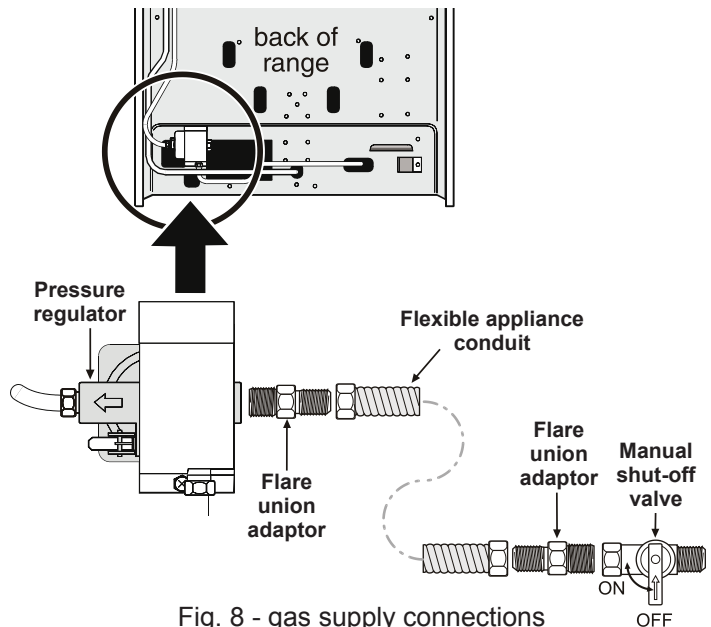

Fig. 8 - gas supply connections
- Install an external manual gas shut-off valve to gas supply line in an accessible location outside of range. Be sure you know where and how to shut off the gas supply to the range (See Fig. 8).
- Install 1/2" flare union adaptor to gas pressure regulator using **no more than 15ft./lbs.** of torque (Refer to Fig. 8).
- d. Install flare union adapter to external manual shut-off valve (See Fig. 8).
e. Attach flexible appliance conduit to flare union adaptor on shut-off valve (See Fig. 8).